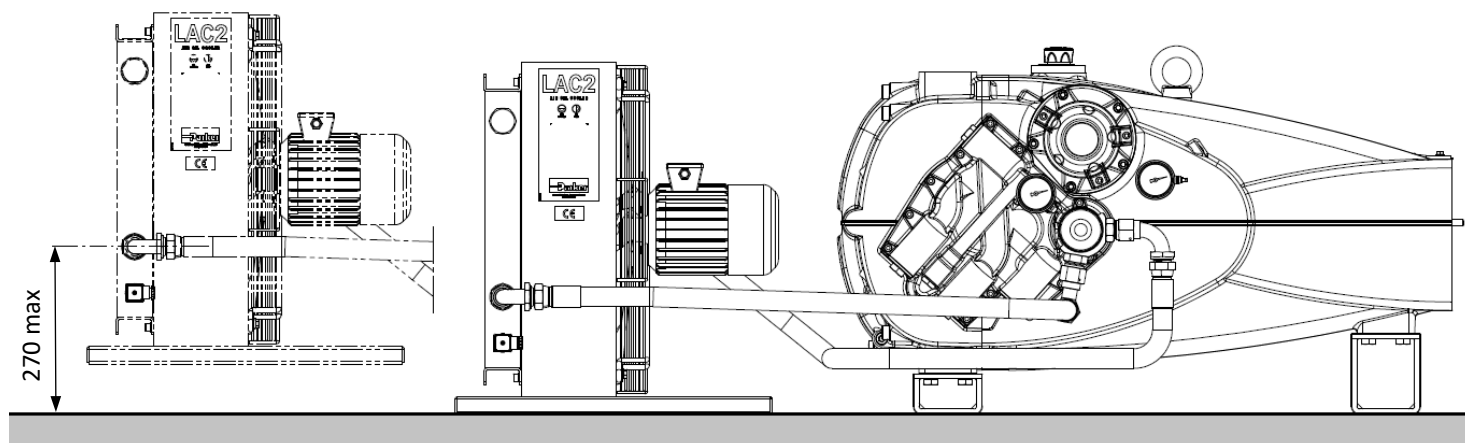

fig.6
**In any case, the oil inlet port in the exchanger must be at a maximum height above the support surface of 270 mm (see fig.6)**